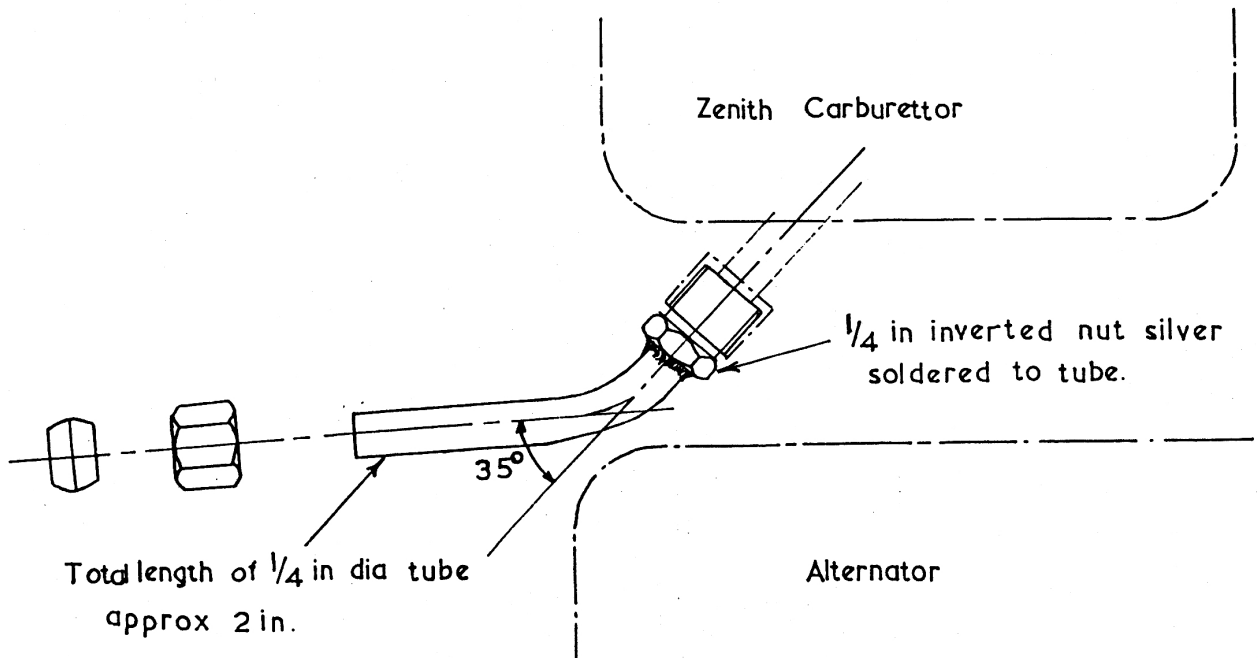

FIG 12 - FUEL LINE EXTENSION TUBE
- a. Manufacture the fuel extension tube as detailed in fig 12. Ensure that the tube (58) does not extend more than 3/16 inch into the inverted nut (61) before silver soldering.